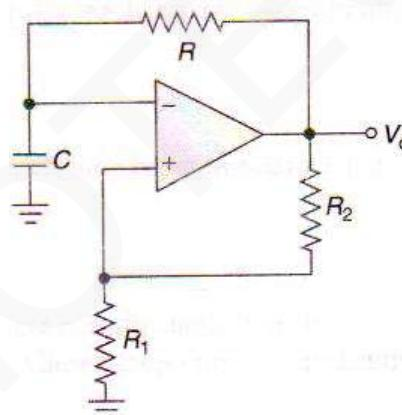

Figure 17.71: Relaxation oscillator
- Here is how it works (Figure 17.71):